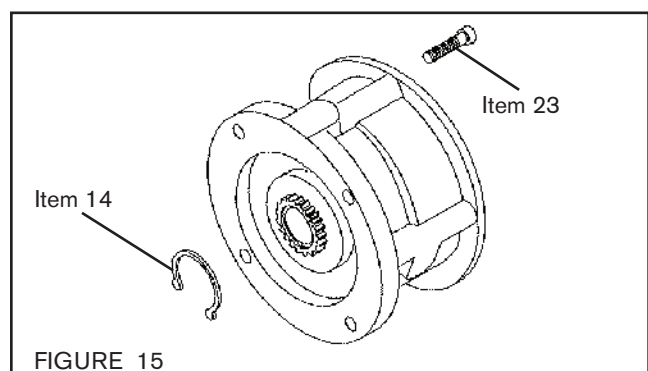

FIGURE 15
2. Using four Socket Head Cap Screws (Item 23) and Lock Washers (Item 24), secure the SE Brake halves together (See Figure 15).
5. Install Retaining Ring (Item 14) (See Figure 15).